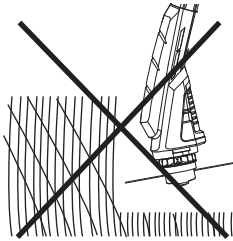
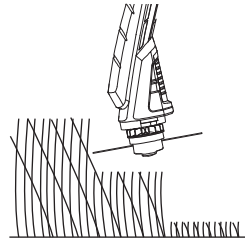

Fig. 10
Fig. 11
6. Ensure the cutting device remains clean and free from off-cuts that may cause it to jam. Check regularly. Release the on/off switch (2) and disconnect the product from the power supply before checking.
7. Trim longer grass in stages; do not cut long grass in one cut (Fig. 10). For the best results, cut longer grass in steps (Fig. 11).